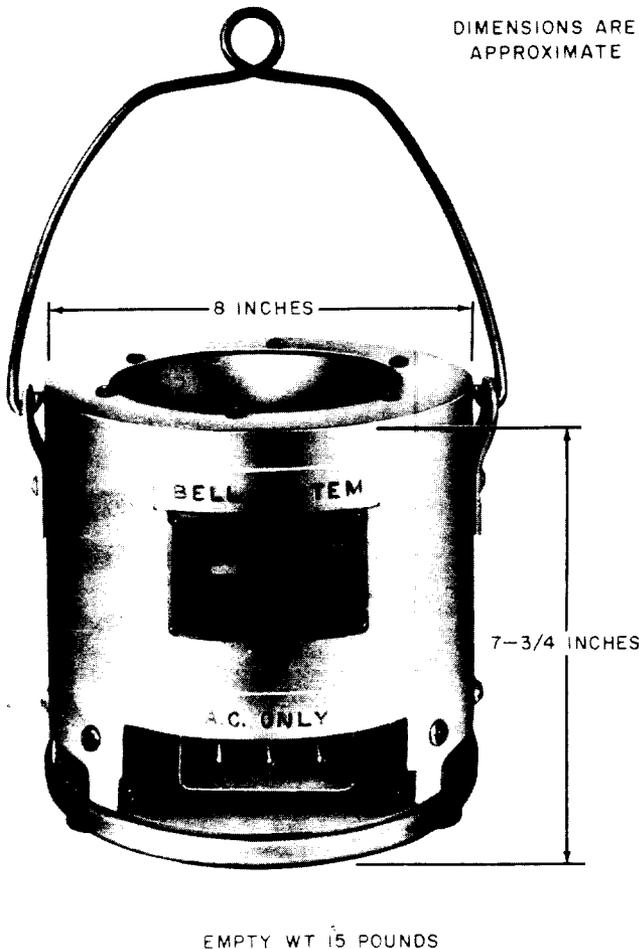
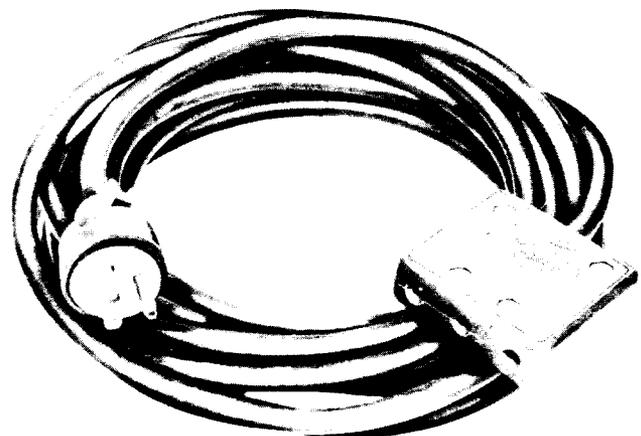

Fig. 3—20-Pound B Solder Pot (MD)
Fig. 5—B Solder Pot Cord (MD)
5.03 The B Solder Pots are illustrated in Fig. 3 and 4. The B Solder Pot is either a 20-pound or 35-pound capacity electrical solder pot primarily intended for use on subscriber premises. The B Solder Pot Cord (Fig. 5) is a 25-ft long, 3-conductor cord used to connect the solder pots to a power source and provide for grounding the solder pot shell. Use only the D Extension Cord to connect the solder pot when an extension cord is necessary. The B Solder Pot will operate on 110-120 volt ac